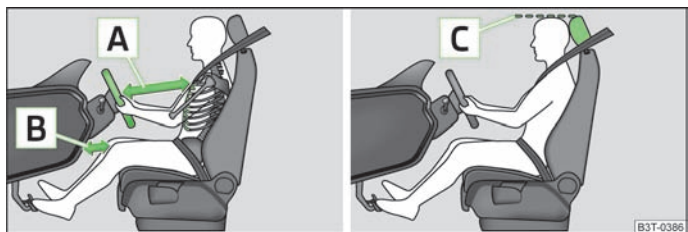

Fig. 135 The correct distance of the driver from the steering wheel and dash panel/The correct head restraint adjustment
- Position the steering wheel so that there is a gap of at least 25 cm between the steering wheel and the chest » Fig. 135 [A], and that the distance between the legs and the dash panel at the height of the knee airbag is at least 10 cm » Fig. 135 [B].
- Adjust the head restraint so that the top edge of the head restraint is at the same level as the upper part of your head » Fig. 135 [C].
- Adjust the head restraint so that the top edge of the head restraint is at the same level as the upper part of the head » Fig. 135 [C].